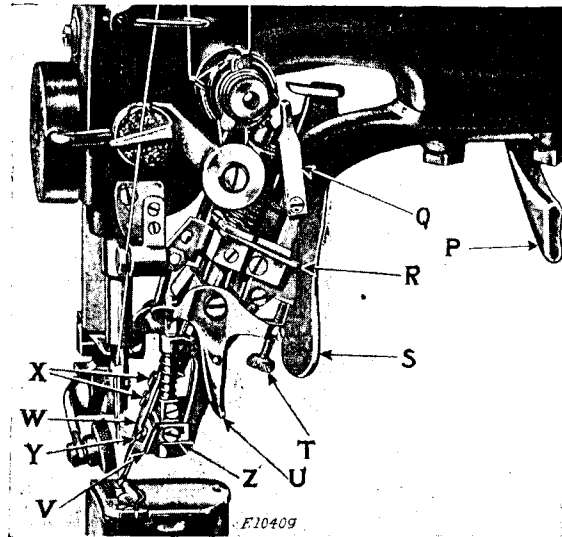

Fig. 26. Adjustments on the Trimmer of
The knife (W, Fig. 26) should be set so that its cutting edge presses against and just passes below the cutting edge of the throat plate cutting bar to ensure making a shear cut. Care should be taken to keep the knife sharp.
The knife can be adjusted to the correct height by loosening the two screws (X, Fig. 26) and moving the knife up or down on the knife holder, after which the two screws (X) should be securely tightened.
The purpose of the edge guide finger (V, Fig. 26) is to keep the edge of the shoe upper out of range of the trimming knife, thus preventing the knife from cutting the edge of the upper while the stitching and trimming is in progress. When in proper adjustment the edge guide finger should be slightly to the left of the knife (W, Fig. 26). The sidewise adjustment of the edge guide finger is obtained by loosening the screw (Z, Fig. 26) and moving the guide finger holder to the right or left as may be required, after which the screw (Z) should be firmly tightened. The back edge of the guide finger should stand as close to the knife as possible without striking it, this adjustment is obtained by loosening the screw (Y, Fig. 26) and moving the guide finger backward or forward as may be required. The guide finger should be adjusted to a height that will permit the facing or lining to pass freely under it to the knife while protecting the edge of the upper from injury. The guide finger can be adjusted to the correct height by means of the screw (T, Fig. 26). If the guide finger should run under or catch the lining, the guide finger holder should be slightly raised. To hold the guide finger out of action, hang up the guide finger bar by means of the latch (Q, Fig. 26).
When crossing heel seams, it is sometimes desirable to slightly raise the edge guide finger (V, Fig. 26). To do this, press the lever (U, Fig. 26) to the left and hold it in this position until the seam is crossed.
When it is desired to use the edge guide (V, Fig. 26) with the knife out of action, move the lever (R, Fig. 26) to the left. When it is desired to automatically raise the edge guide finger with the knife, move the lever (R) to the right when the knife is down.